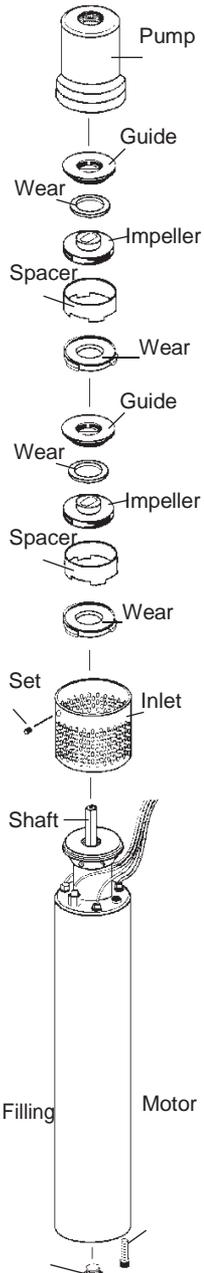

Figure 14:
- Remove the Inlet Screen, Pump Housing, and the impeller assembly (see Figure 14). Try to spin the motor shaft by hand. It should spin freely. If it does not, the motor must be replaced.
There is no recommended preventative maintenance for pump components. Reduced pump performance may be indicative of wear, especially if pumping suspended solids. Disassemble the pump end impeller assembly (see figure 14, page 12) and examine for wear according to the following:
2. **Re-assembly** (refer to figure 14)